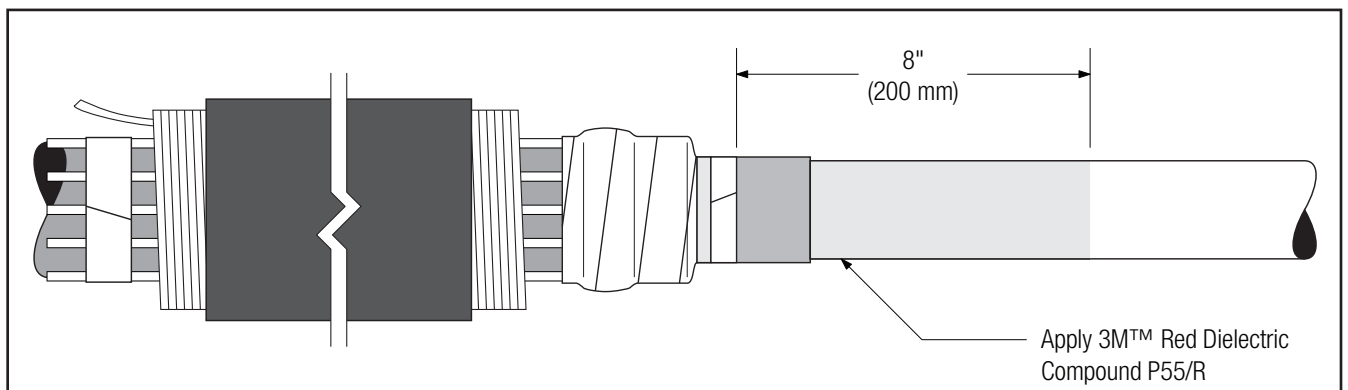

Figure 7
3.3 Apply 1 tube 3M™ Red Dielectric Compound P55/R starting at marker tape and continuing onto the cable insulation for approximately 8" (200 mm). (Figure 7)